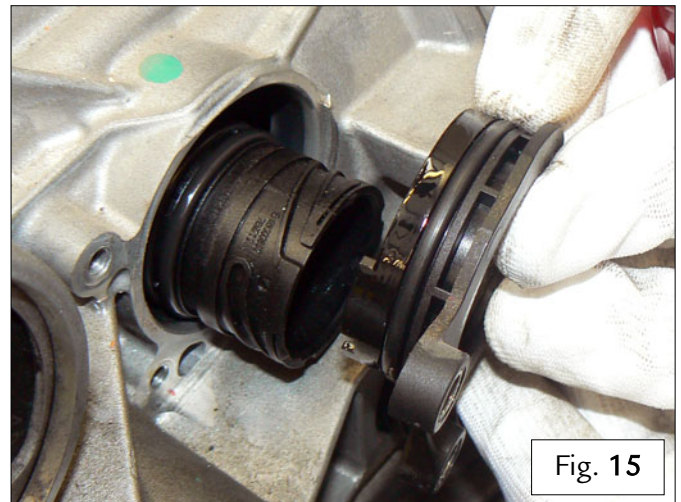

Fig. 15
- Wait for the ATF clutch fluid to drain completely into the container – Fig. 15.
- Remove the adapter – Fig. 15.